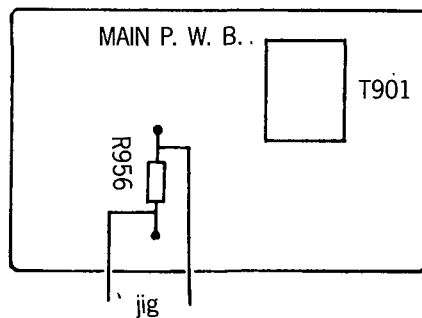
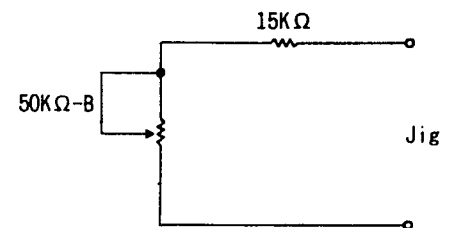

Fig. 1
Fig. 3
5. Turn the switch of the set to off and connect the jig shown in Fig.3 at both ends of R956 as shown in Fig.1.